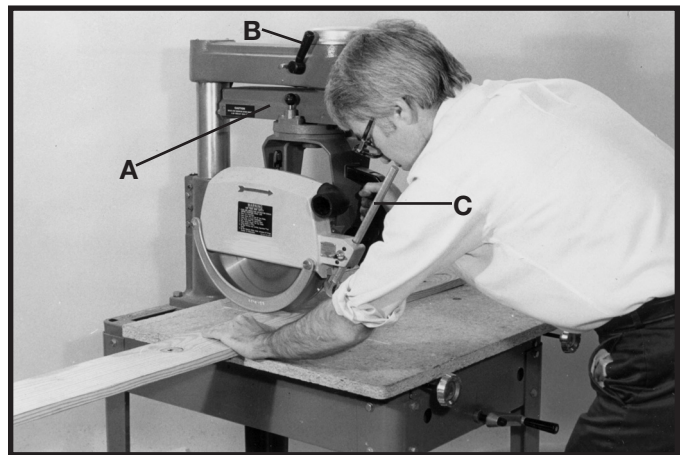

Fig. 62
When cross-cutting, the track arm (A) should be indexed at "0" and the track arm clamp handle (B) Fig. 62, tightened. The fence should be clamped between the table boards. The saw blade is to be to the left and behind the fence. The workpiece is placed on the table and butted against the fence. The saw blade should be clear of the fence and table when the machine is turned on. Then the saw blade is lowered until it lightly cuts into the table surface. The operator should position himself a little to the left of the machine for better visibility while cutting. Pull the saw blade across the work, just far enough to cut it off, and return the saw blade to its starting position. Wait for the blade to stop before touching the cut off piece.
⚠ CAUTION The operator must always be conscious of where his hands are; that they are clear of the blade and holding the workpiece firmly. As an added measure of operator safety, since the splitter and anti-kickback fingers are not used in the cross-cutting operation, the anti-kickback rod (C) can be turned upside down and locked in place so the rod just clears the workpiece. In this position the rod can act as a guard from the exposed teeth of the blade. Fig. 62 shows a cross-cutting operation on a radial saw. The operator should always be sure to return the cutterhead carriage to the full rear position after each cross-cut operation.